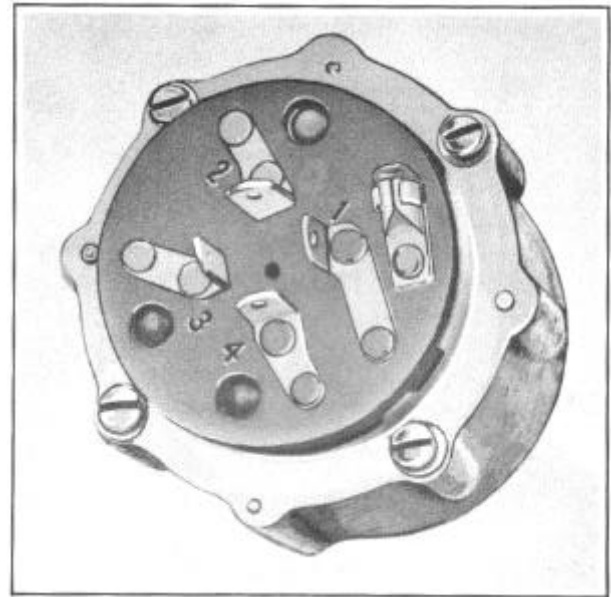

FIGURE 38
Rear wheels on stands. Start engine, shift high gear. Remove connector plug. Long ad to test lamp to negative terminal of battery. Test lamp prod to No. 2 (RW) prong wire governor, Figure 38 - 39, should light test lamp up to 18-21 miles per hour.